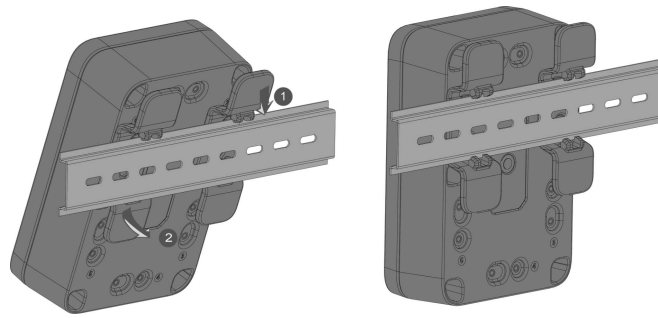

Figure 29: Fixing the enclosure on the DIN rail
3. Lastly, clamp the buckle of the DIN mount kit at one end on the edge of the DIN rail, then rotate and press the enclosure to clamp the other end, as shown in **Figure 29**.